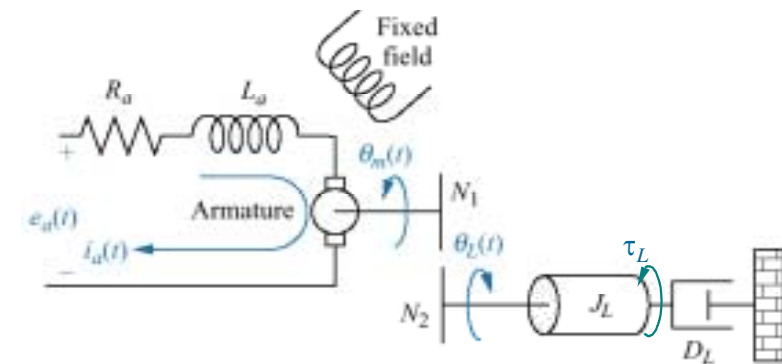

Figure 4
- Derive the state variable equations (10%) for a DC motor system (Figure 4) that has a constant field voltage E_f , an applied armature voltage $e_a(t)$, and a load torque $\tau_L(t)$. Also obtain the transfer function (5%) with ω_L as the output, and determine the steady-state angular velocities corresponding to the following sets of inputs: